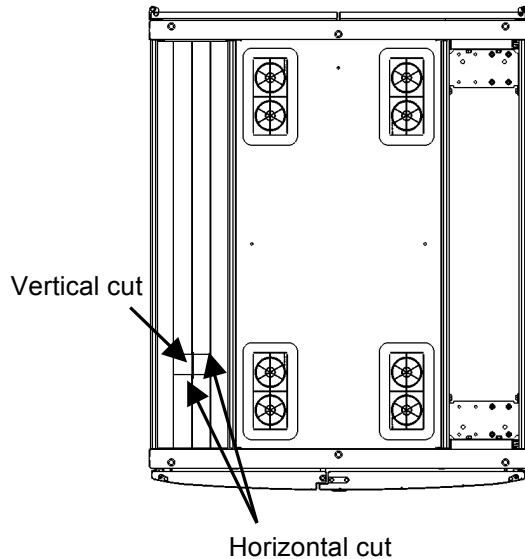

Fig. 10
9. To provide opening for the cables, give two horizontal cuts which joins the vertical lines (Fig. 10) Width of cut depends on diameter and number of cables need to come out of opening, then give a vertical cut in the middle.